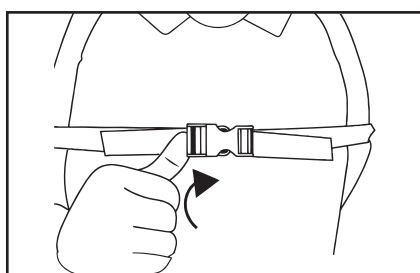
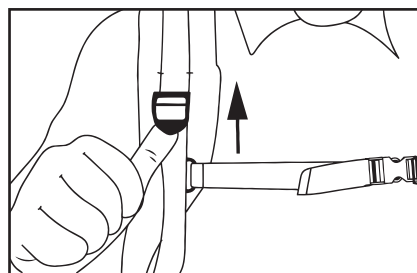

FIGURE 6
FIGURE 7
6.3 Lift the back tabs of the buckles to loosen the backpack straps. **FIGURE 6. FIGURE 7.**